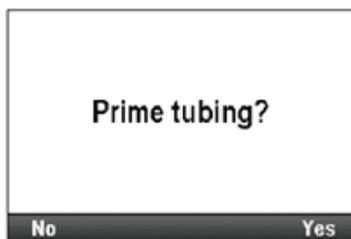

Figure 8: "Prime tubing?" screen
4. Press **Yes** to prime the tubing or **No** if your tubing has been pre-primed. See Figure 8.